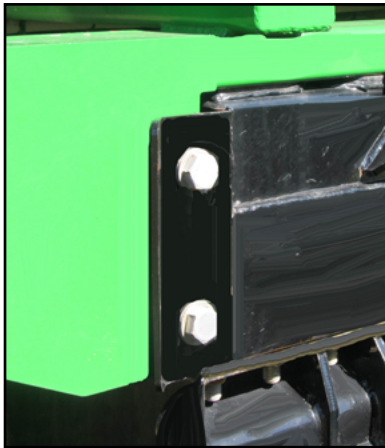

Figure 3a – Rear Mounts (1st)
3. Secure spreader to trailer by loosely installing mounting hardware, starting at the rear and moving forward. Add shims to rear mount between box and trailer. Tighten mounting hardware as specified under the corresponding mounts (Figure 3a-c).